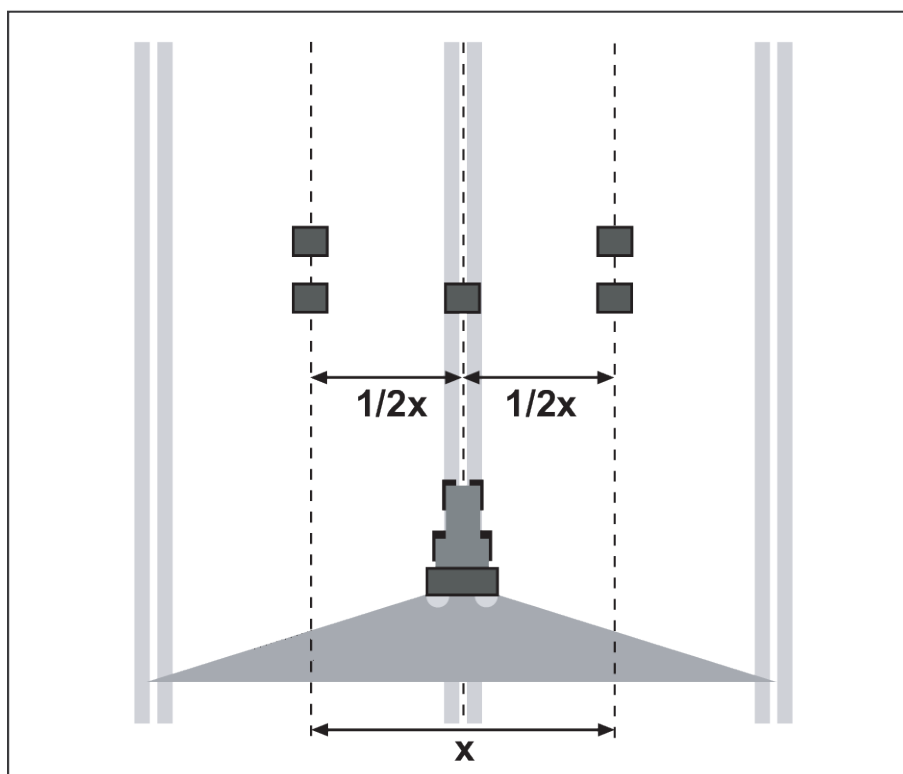

Fig. 34: Layout for one passage
- ▶ Place two collecting vessels one in front of another at a distance of **1 m** in the overlap zones (between the tracks) and one collecting vessel in the track (according to Fig. 34)